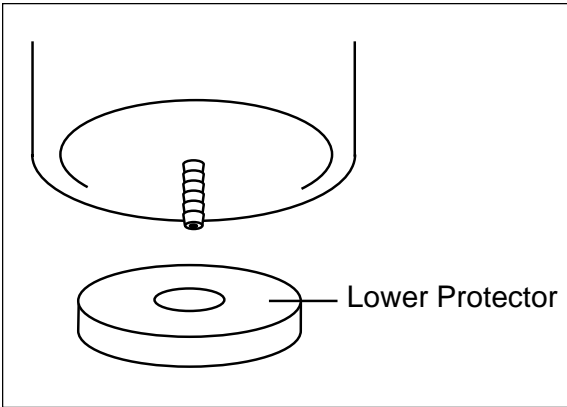

Figure 2
6. Push cylinder to the top of the coil and insert protector between the lower open coils. Push the cylinder down so that the barb goes into the protector's open hole (Figure 2).